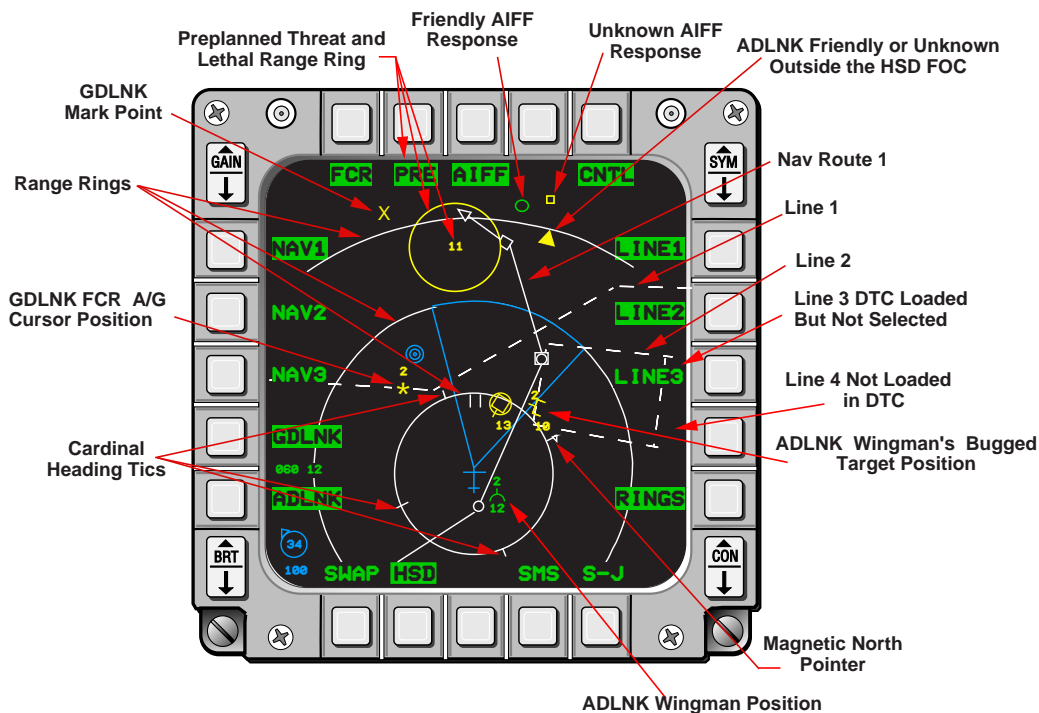

Figure 1-23 HSD Control Page
**Control Page.** The HSD Control page (Figure 1-23) is accessed by depressing Control (CNTL) OSB 5 on the HSD Base page. In addition to providing a means of de-cluttering HSD symbology and data, the HSD Control page gives the pilot the capability to monitor the status of the HSD functions and symbologies. When the HSD Control page is selected, all symbologies currently selected for display on the HSD Base page will be highlighted.